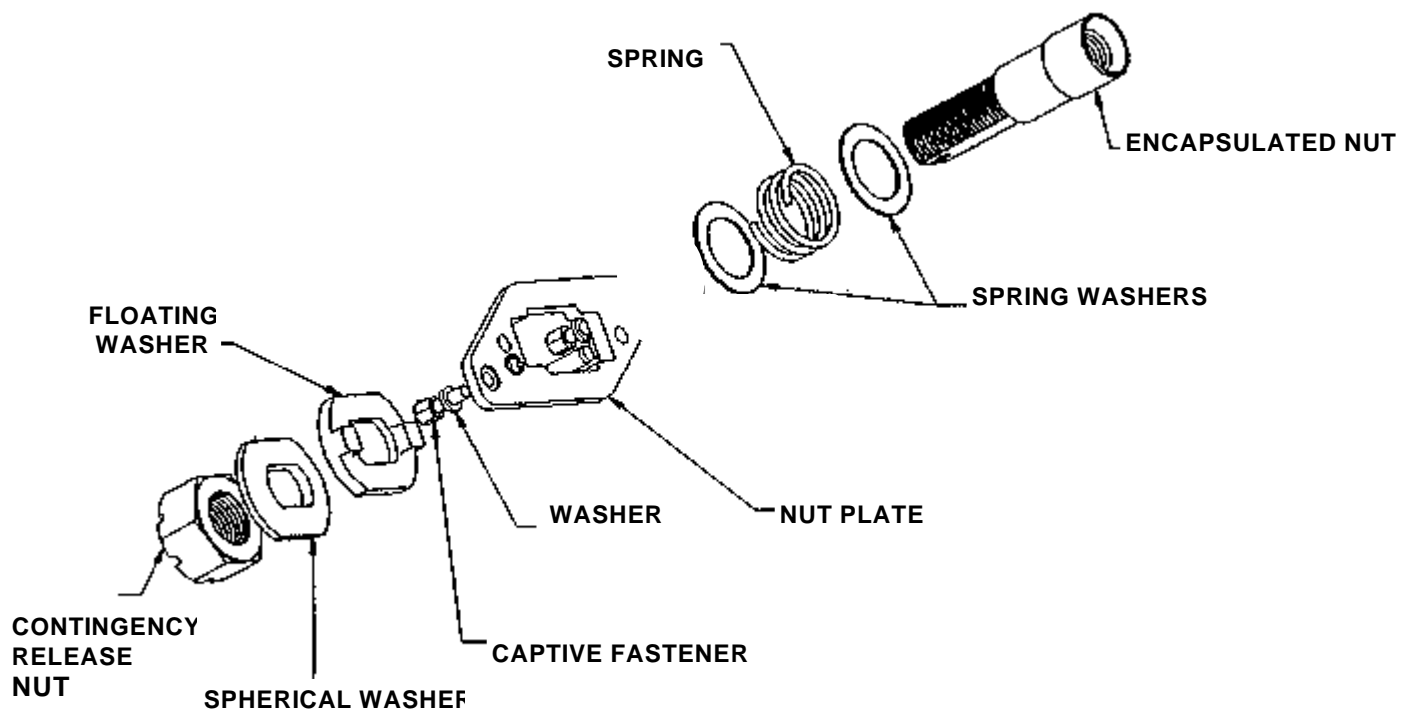
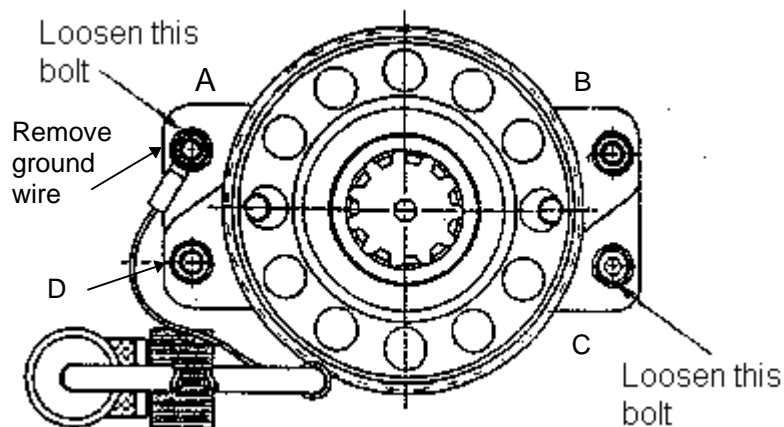

Figure 2. Powered Bolt Nut Assembly
Figure 3. Powered Bolt - Top View (with Actuator Removed)
See Figure 2.
In steps 15 or 16 loose items may be freed (spring, two washers). See Figure 2. In step 15, ground wire will be released when bolt A is loosened. Note orientation of wire so that it may be reinstalled in a similar manner on spare powered bolt. See Figure 3.
15. Remove powered bolt, encapsulated nut, from ACBM by loosening hex head fasteners (two) (Ratchet 1/4" drive, 2" Ext, 5/16" Socket) (Tm pry stow). See Figure 3.
Ext, 5/16" Socket, 1/4" Drive) (Label, Tmpy stow). See Figure 3.
22. Slide lug on ground cable under washer of fastener A or C. See Figure 3.